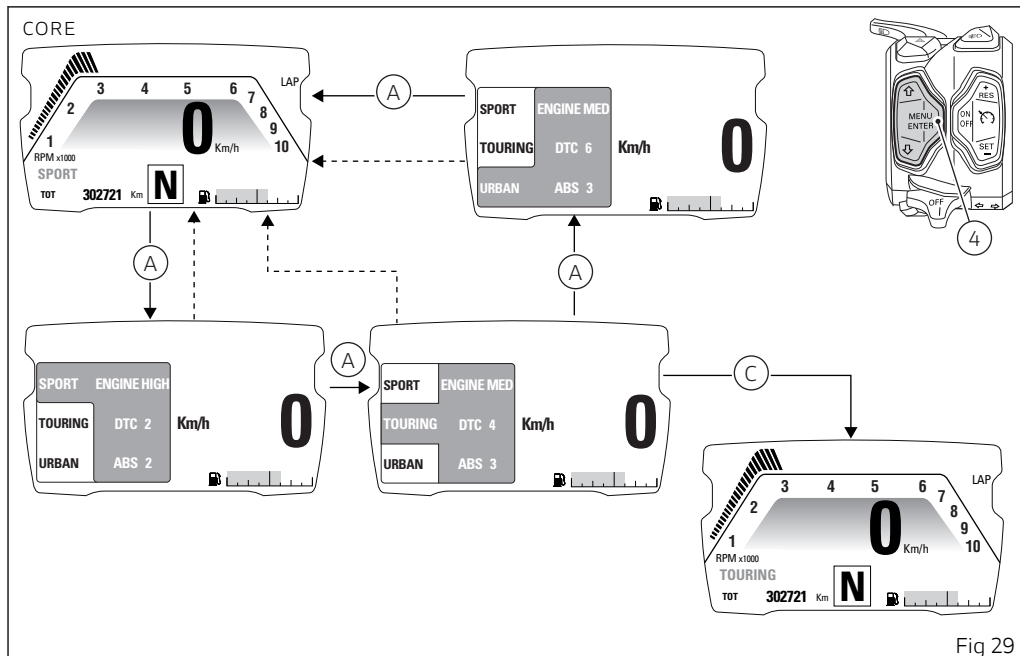

Fig 29
Any time the CONFIRM MENU button (4) is pressed, you highlight a riding mode and the associated parameters are displayed (A, Fig 29).
Once the desired riding mode (A, Fig 29) is highlighted, confirm the selection by holding down the CONFIRM MENU button (4) for 2 seconds: the new riding mode selection is stored and the standard screen (C, Fig 29) is displayed for the selected riding mode.